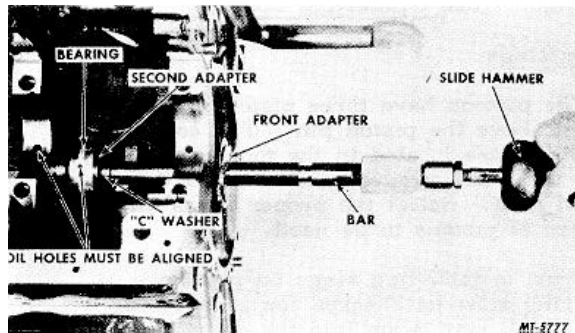

Fig. 98 Installing Second Camshaft Bearing
5. Position new bearing on second adapter and "C" washer in front of adapter (Figure 98). Align oil holes and push in second bearing.